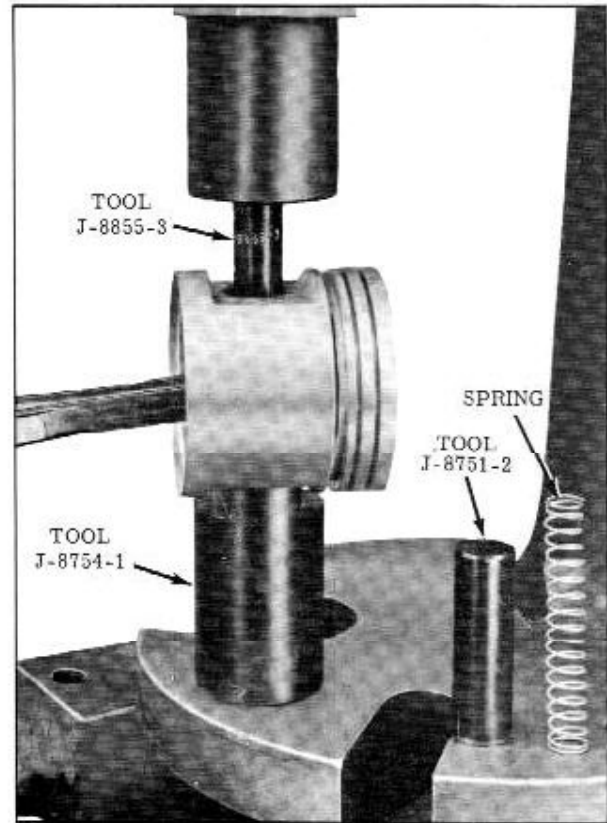

Fig. 8-29 Removing Piston Pin
2. Place Remover Tool J-8855-3 in piston pin as shown in Fig. 8-29, and press pin out.